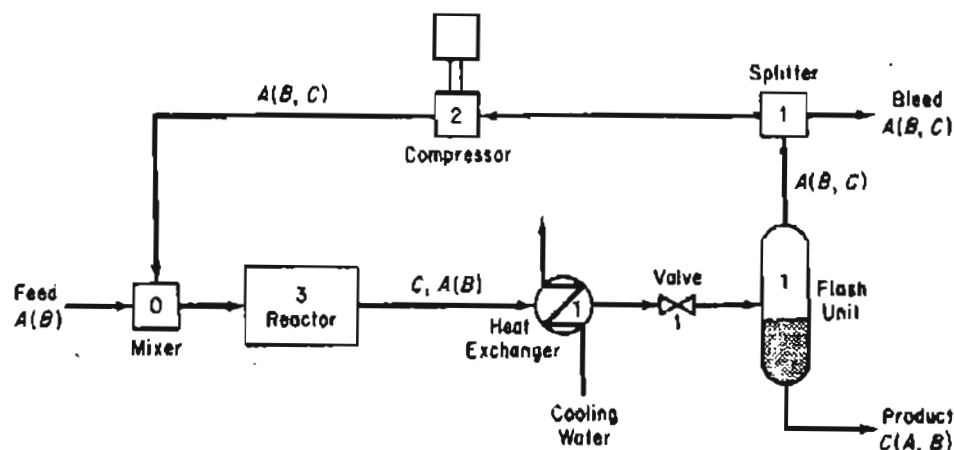

Figure P30.12
- 30.12** The flowsheet (Figure P30.12) has a high-pressure feed stream of gaseous component A contaminated with a small amount of B. It mixes first with a recycle stream consisting mostly of A and passes into a reactor, where an exothermic reaction to form C from A takes place. The stream is cooled to condense out component C and passed through a valve into a flash unit. Here most of the unreacted A and the contaminant B flash off, leaving a fairly pure C to be withdrawn as the liquid stream. Part of the recycle is bled off to keep the concentration of B from building up in the system. The rest is repressurized in a compressor and mixed, as stated earlier, with the feed stream. The number of parameters/variables for each unit are designated by the number within the symbol for the unit. How many degrees of freedom exist for this process?